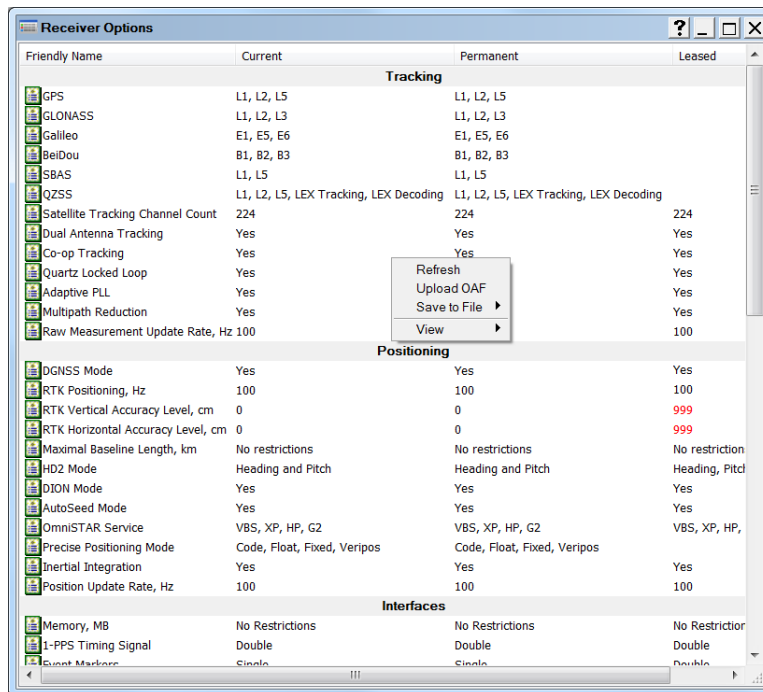

Figure 50: Right-click and Select Upload OAF
2. Right-click in the **Receiver Options** screen, and select **Upload OAF** (Figure 50).